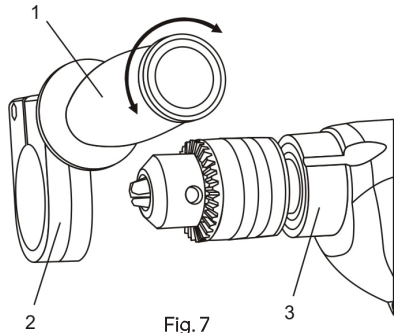

Fig. 7
Install the auxiliary handle (1) for two handed operation of the drill (Fig. 7). This is particularly important for drilling in concrete.
1. Rotate the auxiliary handle counterclockwise to open mounting collar (2).
2. Slide the auxiliary handle collar over the chuck and fully onto the drill housing (3).